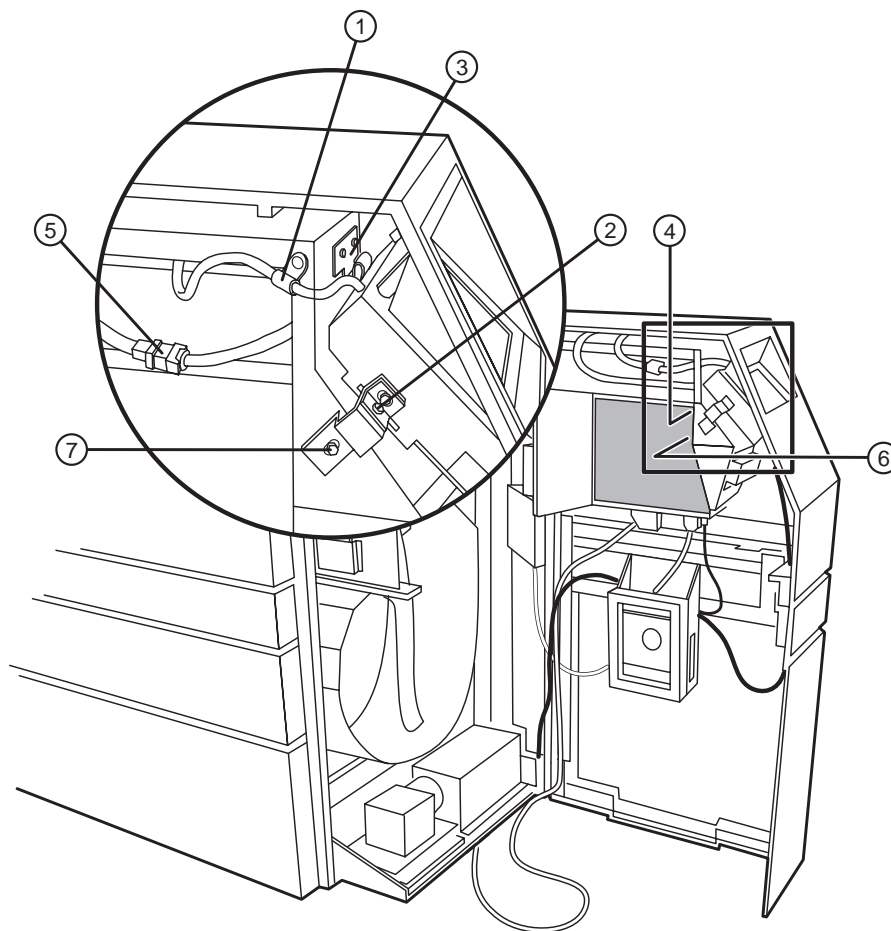

Figure 4-21 Operator control panel (OCP).
3. Disconnect the OCP ribbon cable from the DEC board. Refer to Figure 4-21.
- ①—Power cord clamp. ②—Removable mounting bracket's 1/4" hex screw.
- ③—1/4" hex screws (2) securing OCP ribbon cable bracket.
- ④—Power supply connector. ⑤—AC power connector.
- ⑥—OCP ribbon cable. ⑦—Removable mounting bracket's 5/16" hex screw.
4. Remove the hex screw securing the power cord clamp to the electronics enclosure. Refer to Figure 4-21.
6. Remove the power connector going to the power supply. Refer to Figure 4-21.
7. Loosen the 1/4" hex screw securing the OCP assembly to the removable mounting bracket. Refer to Figure 4-21.
8. Remove the 5/16" hex screw securing the removable mounting bracket to the electronics enclosure. Refer to Figure 4-21.
10. Remove the two (2) 1/4" hex screws securing the control panel ribbon cable to the electronics enclosure. Refer to Figure 4-21.